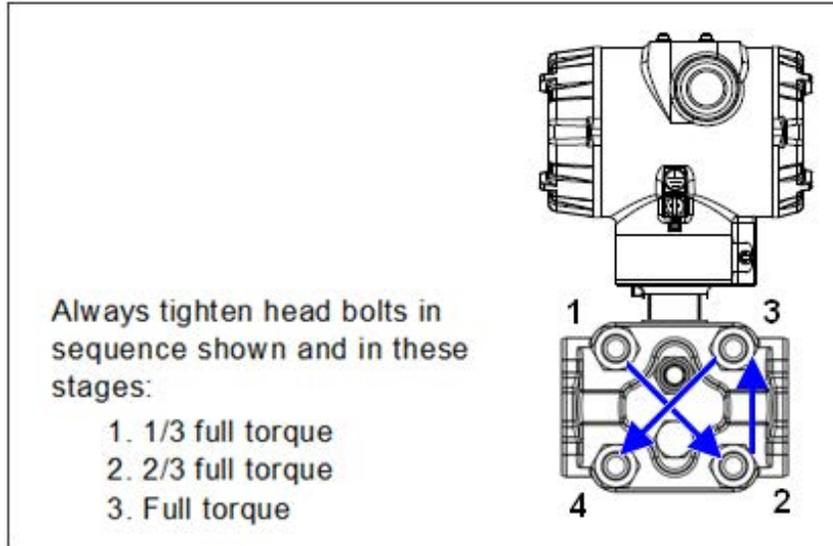

Figure 20 – Head Bolt Tightening Sequence
4. Loosen the nuts in the sequence shown in Figure 20.
12. Using a torque wrench, gradually tighten the nuts in the sequence shown in Figure 20. Tighten head bolts in stages of 1/3-full torque, 2/3-full torque, and full torque. See Table 15 for torque requirements versus Transmitter type and model.